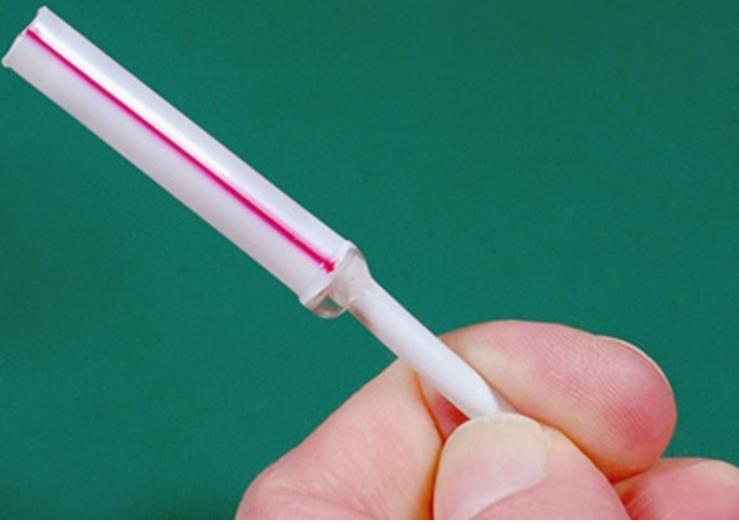

Figure 12-10: Finishing up your sensors for a watertight seal.
12. Turn the sensor over, and apply glue to the area where the cable enters the straw, again making sure you have a watertight seal, as shown in Figure 12-10.